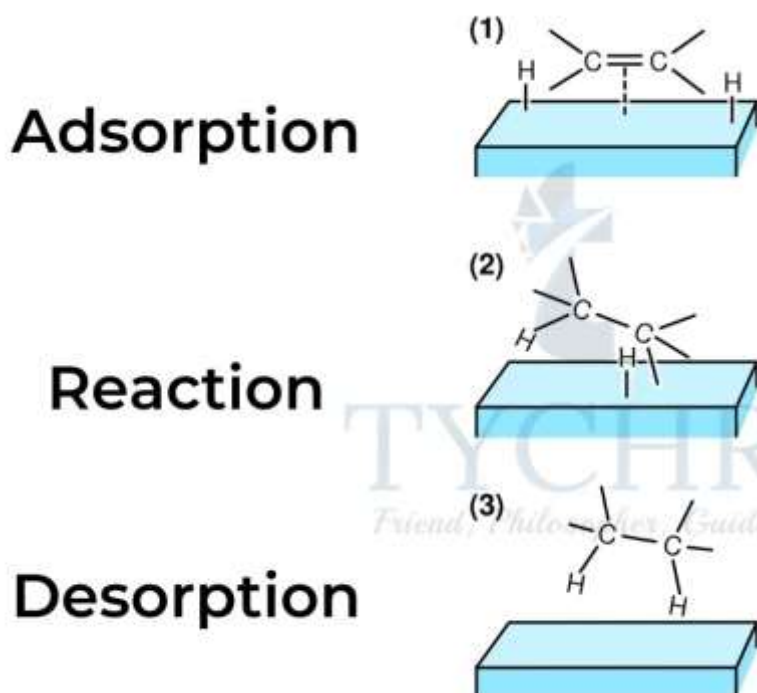

Figure 7: The action of a heterogeneous catalyst
- Soap forms spherical **micelles** (figure 7). The polar ends on the outside of the sphere are surrounded by water molecules with non-polar oil or grease encapsulated in the centre.